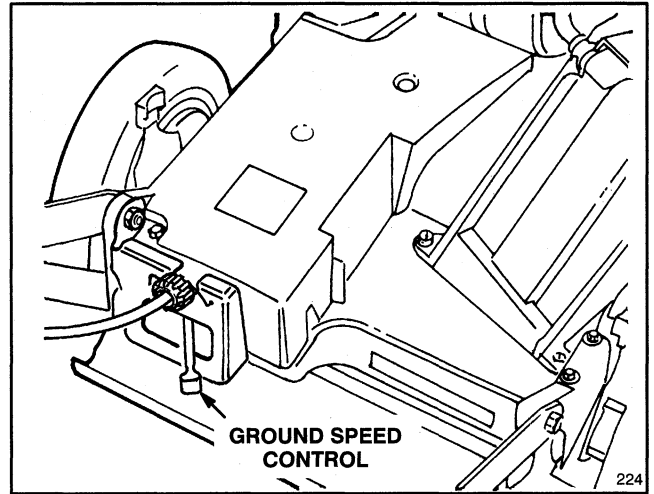
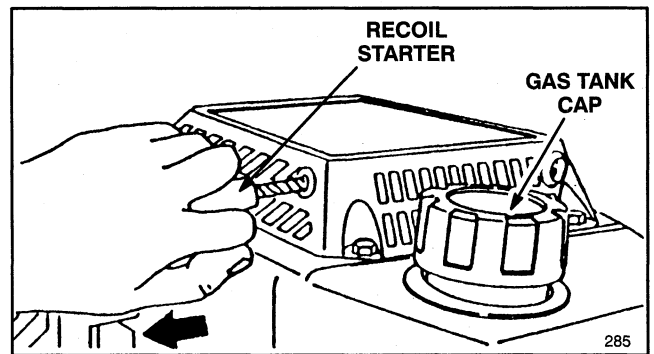
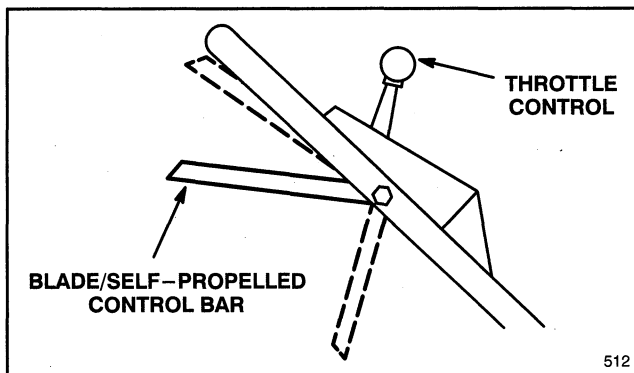

Figure 9
Figure 10
Figure 8
1. Clean around fuel tank cap and remove cap from tank (Fig. 10). Using unleaded gasoline, add fuel to 1/4" to 1/2" (6 to 13 mm) from top of tank, not into the filler neck. Do not fill the tank full.
1. **CONTROLS**—Throttle control and blade/self-propelled control bar are on upper handle (Fig. 8). Ground speed control is located at rear of belt cover (Fig. 9). Recoil starter is on top of engine (Fig. 10).
2. Remove cap from fuel tank (Fig. 10) and use pump-type siphon to drain fuel into clean gas can.